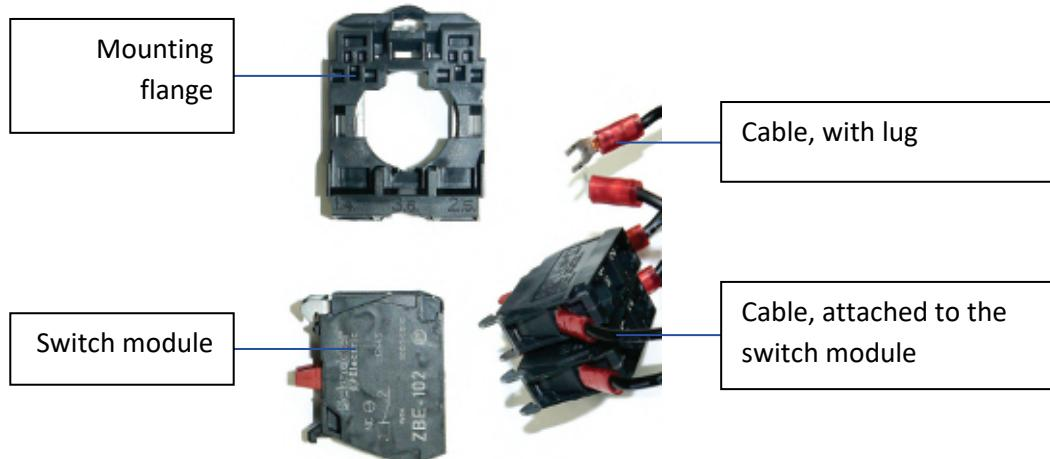

Fig. 45: Switch module, cable, and mounting flange
- 3.** The cables are fitted with fork type cable lugs which are fastened with screws to the switch modules (two cables per switch). Loosen the screws and pull the cables and the lugs out of the switch module. The individual modules can now be replaced (see Fig. 45).